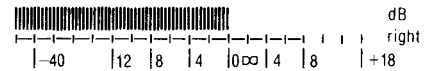

Fig. 18
8. At this time, check that 0 dB indicator is dimmed (intermediate brightness between full brightness and light-out (See fig. 18.)